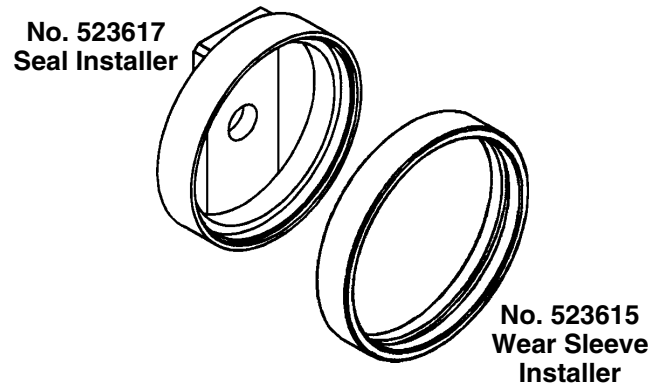

Figure 6
- Install the No. 523617 seal installer inside the wear sleeve installer. See Figure 6.